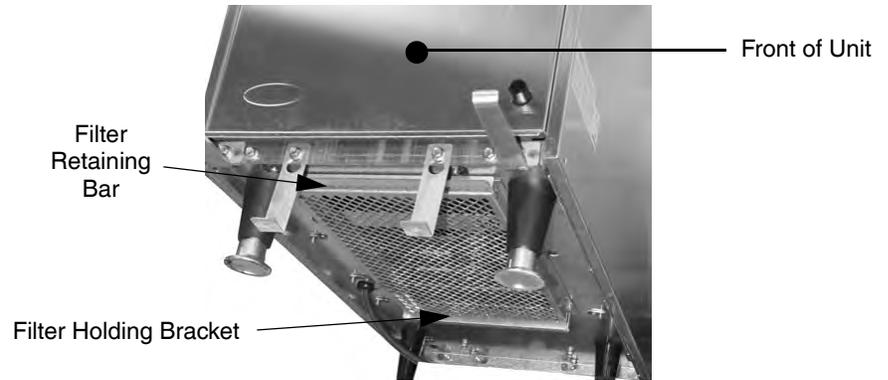

Figure 32. Air Filter Location
2.	Reach under the unit and flip up the filter retaining bar , shown in Figure 32.